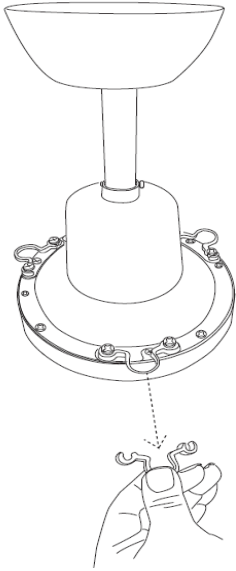

Fig. 1
- Connect the supply Active/Live to the common (c) terminal on the isolation switch Fig.1
1. Remove the plastic shipping stabilizer tabs as in Fig. 1,